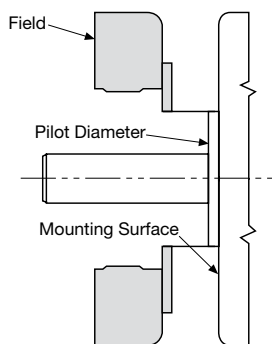

Figure 1
1. A pilot diameter on the mounting surface is essential to hold the magnet within the required tolerances. (Figure 1) Also see "Customer Shall Maintain" on page 34.